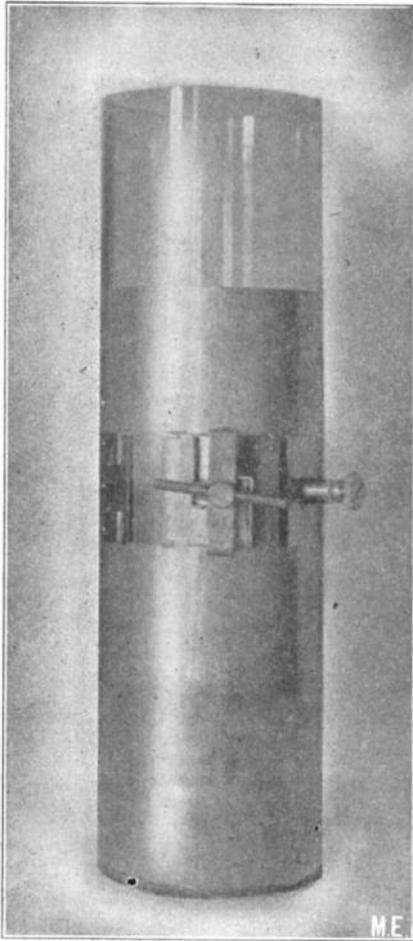
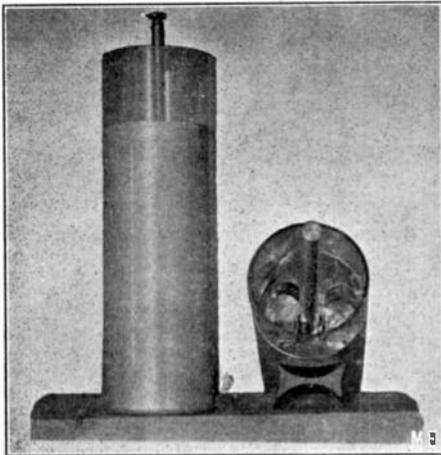
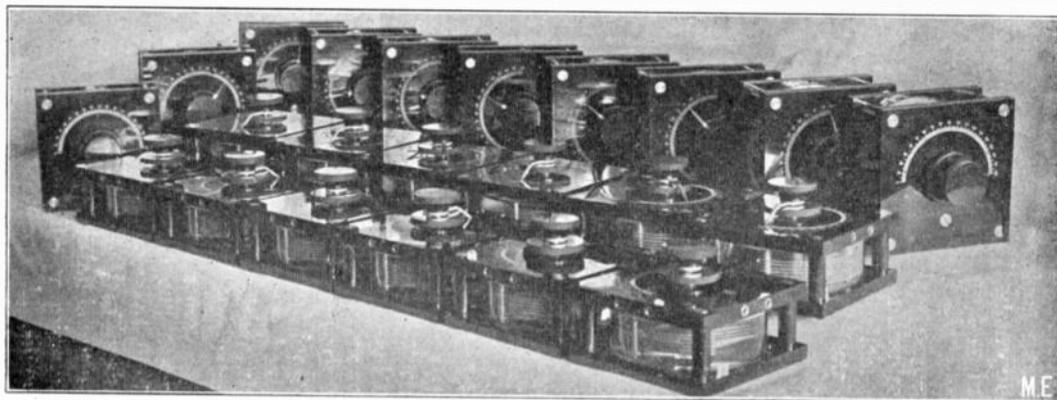
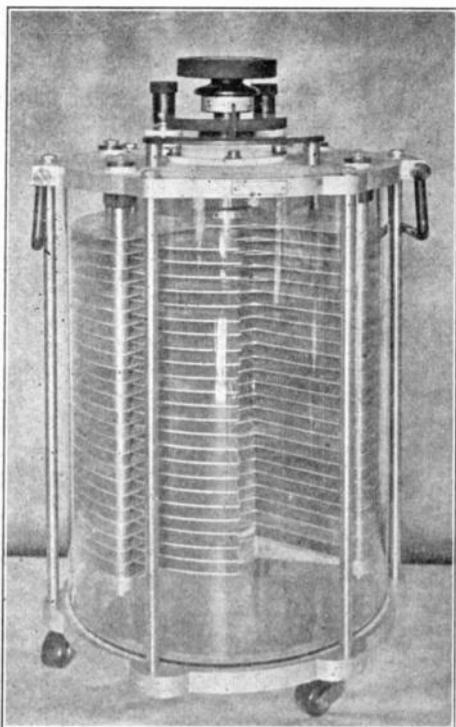

Fig. 1.
Fig. 2.
Fig. 5.
Fig. 4
The method of securing contact with the tinfoil surfaces is important. The outside coating of the jar should be embraced by a brass or copper strap with a terminal and a tightening screw (see Fig. 1), and the brass or copper stem should end in a screw terminal, and should not have the ordinary chain, but be provided with spring extensions, which press tightly against the inner tinfoil surfaces (see Fig. 2). The object is to prevent any sparks at these contacts, which would quickly pierce the glass. The jars so constructed can easily be joined in parallel or series by the use of thin copper strips. The Leyden jar should have its capacity marked on it, expressed in fractions of a microfarad.
position of the movable plates. The rod is, of course, connected by some form of spring or bearing contact with the second terminal of the instrument. Fig. 4 shows the type of adjustable condenser as is used in the transmitting circuits in wireless telephony. Fig. 5 shows the type of adjustable condensers used in the receiving circuits. In the construction or selection of condensers, especially those of large capacity for wireless telegraph work, we have to give due weight to various considerations. We have to consider questions of durability, energy, dissipation, bulk, and cost.
rant shaped plates, one above the other. These resemble the fixed plates in a Kelvin multicellular electrostatic voltmeter. All these quadrant plates are connected together and to one terminal on the cover. In the centre is a metal rod in pivot, carrying a number of quadrant shaped metal plates which are spaced apart by the same distance as the fixed plates. The rod is so held that the plates on it are interspaced with the fixed plates. It is then put in a glass jar and filled with insulating oil. (Fig. 4.)
Fig. 2, with a 1/8 inch bevel on three sides. Bore two holes DD, Fig. 2, in the middle, 1 1/4 inch apart, 7/8 inch from the ends. In these holes are inserted the
The handles, Fig. 4, are made from a square piece of wood 3 1/2 inches by
3/4 inch by 3/4 inch. If a turning lathe is not handy, they may be made round by first changing the square into an octagon by planing, then a 16-sided polygon, etc., till finally a very good circular piece is obtained. A hole is bored, H, Fig. 4.
After assembling parts, a long cord is procured. At one end is fixed one handle. It then is fastened to the knife of the switch, from thence through a pulley in ceiling and down to the second handle. The switch is fastened to a rafter or any other method by screws, for which counter-sunk holes in base should be prepared, as per cc, Fig. 2. Fig. 5 shows the finished product and the diagram for connecting to instruments. I would suggest that another 2-point switch be inserted between aerial and this one. Connect one point to the switch just described, the other directly to the ground. Leave this second switch on ground when not
-FIG. 5-